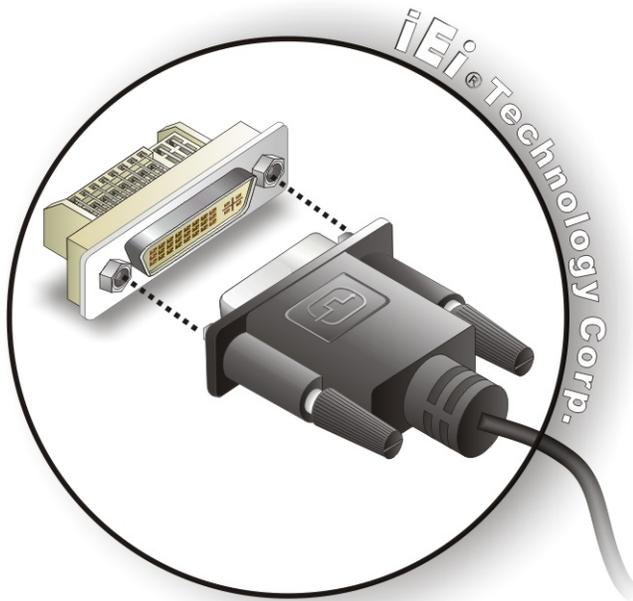

Figure 4-16: DVI Connector
Step 3: Insert the DVI-I connector Once the connectors are properly aligned with the male connector, insert the male connector from the digital display device into the female connector on the KINO-PVN-D5251/D4251. See Figure 4-16.